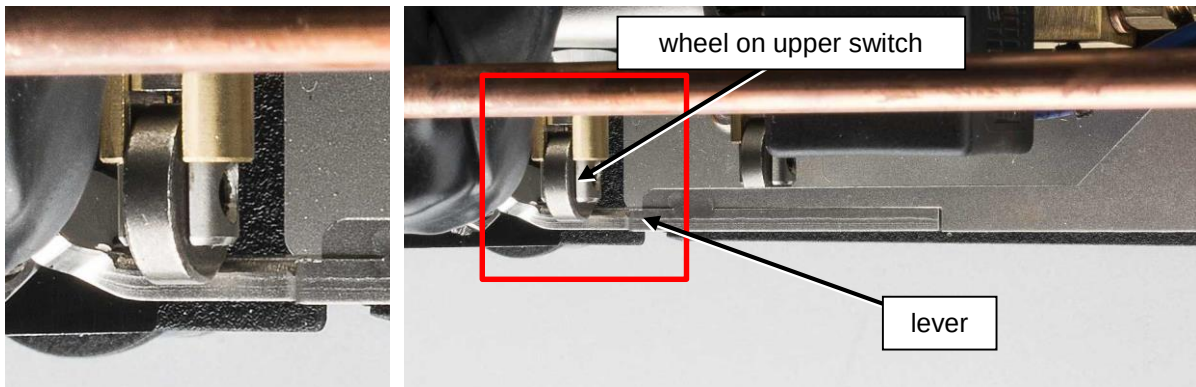

Figure M 20. With the brewing lever in the middle position, the wheel of the upper switch should protrude halfway over the thickness of the lever material.
4. With the lever in the middle position (pre-infusion, pump off) the wheel on the upper switch should protrude halfway over the lever thickness at the point where it touches the lever (see *Figure M 20*).